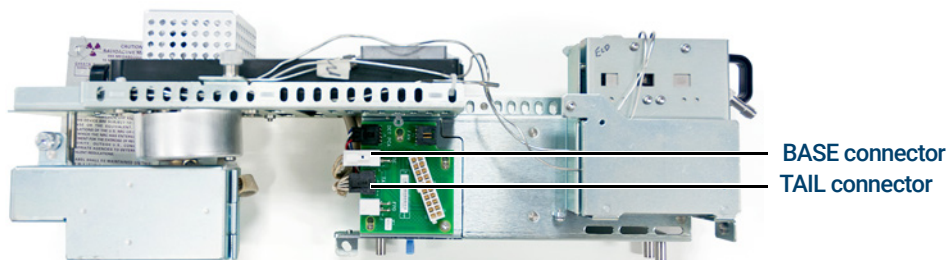

Figure 19. Detector TAIL and BASE heater connectors
- 24** Disconnect the TAIL heater connector from the detector circuit board. See **Figure 19**.